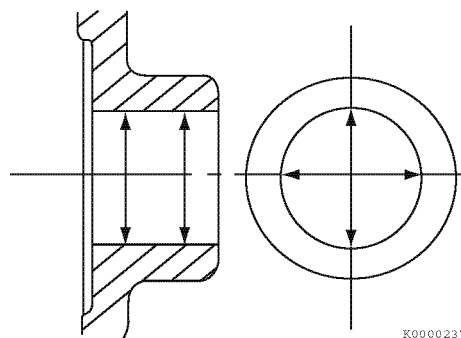

Figure 6-115
6. Measure the diameter of the wrist pin bore on both sides of the piston (Figure 6-115). See *Piston on page 6-13 for specifications*. Record the measurements.